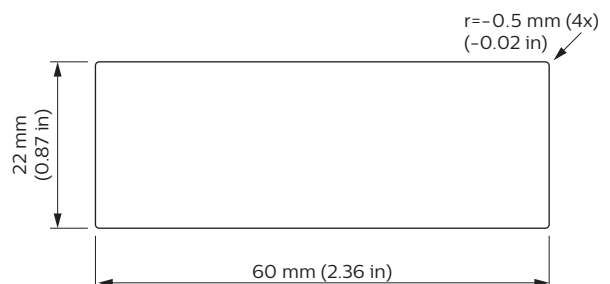

Figure 1: Cutout pattern when using with clip LCA8005
- To use this clip a hole needs to be cut according to the dimensions as indicated in figure 1.